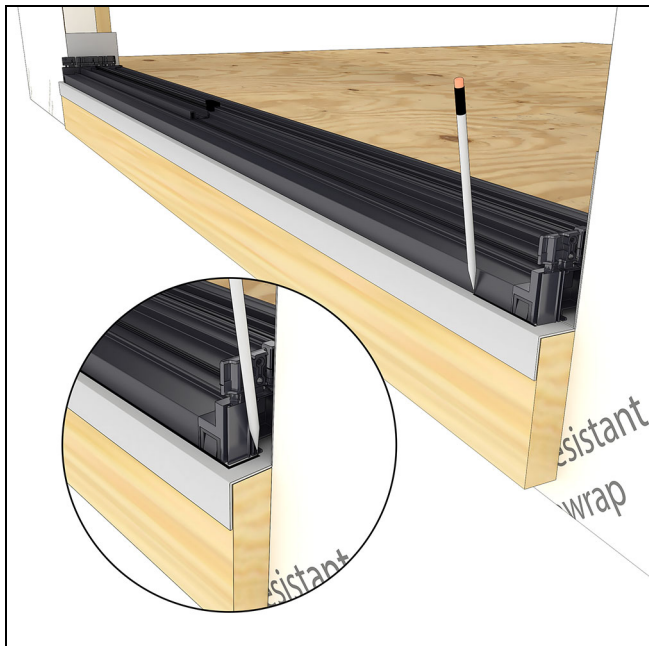

Figure 12
6. Mark the exterior of the sill. Be sure to also mark the ends of the sill. You will use these lines as reference to apply sealant prior to installing the frame. See Figure 12.